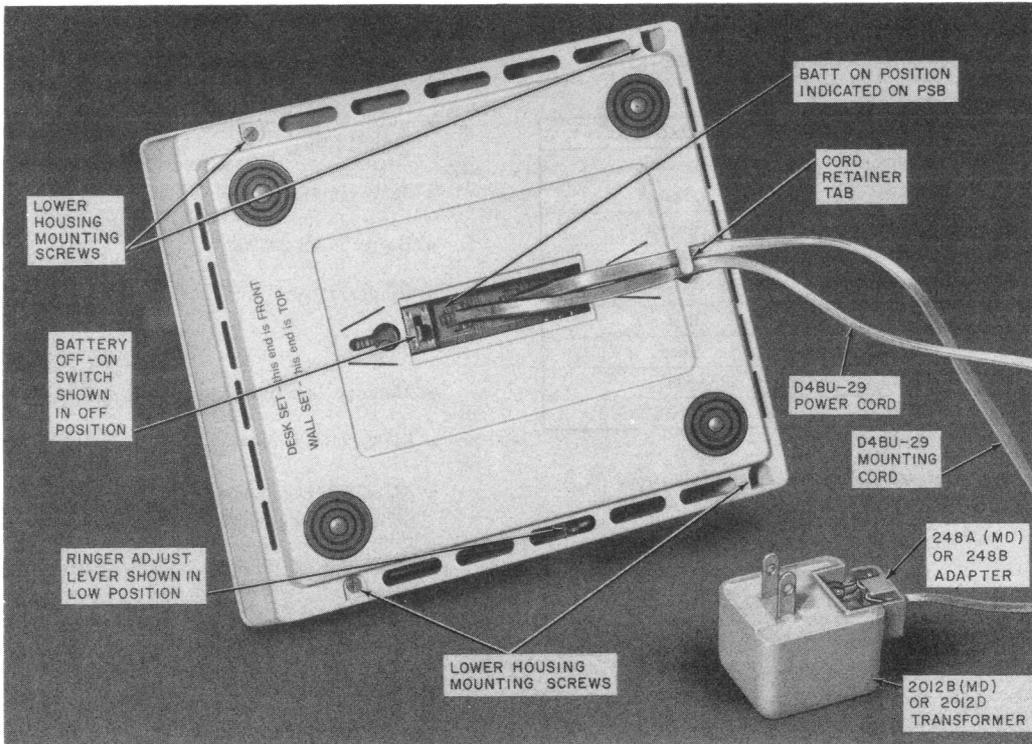

Fig. 2—960A01M (MD) Telephone Set, Bottom View
- Battery OFF-ON switch (located on the bottom of the set, Fig. 2), should be in the OFF position when set is not in service.
**3.04** Attach 248A (MD) or 248B adapter to 2012B (MD) or 2012D transformer (Fig. 2) and plug into 110-117 volt ac outlet not controlled by a switch (continuous ac power is required). Plug one end of the
**3.06** The set is shipped from the factory with the battery switch in the OFF position. After all wiring changes and modifications have been completed, tilt the set up and move the battery switch arm (visible in the bottom view of the set, Fig. 2) to the ON position.
**Note:** The switch ON position is indicated on the bottom of the printed wiring board (Fig. 2), and if switch is not placed in ON position, the set will not record or automatically dial.
**Note:** Dress all cords under retainer tab at bottom rear of housing, Fig. 2.